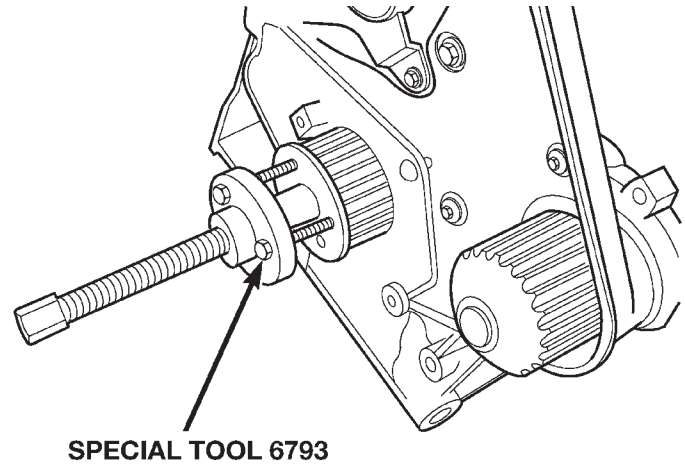

Fig. 69 Crankshaft Sprocket—Removal
(2) Remove outer timing belt cover and timing belt. Refer to procedure outlined in this section.
(3) Remove crankshaft sprocket using Special Tool 6793 and insert C-4685-C2 (Fig. 69).